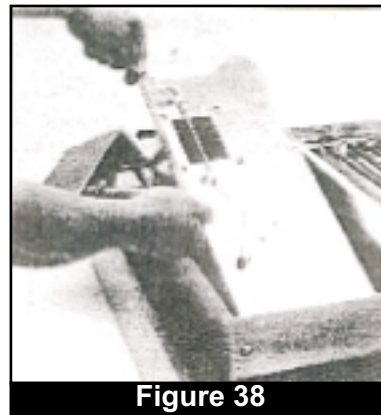

Figure 38
8. Remove the two screws and nuts securing the clips that attach the copper thermostat probe to the motor bracket. Use a medium flathead screwdriver. (Fig. 38)